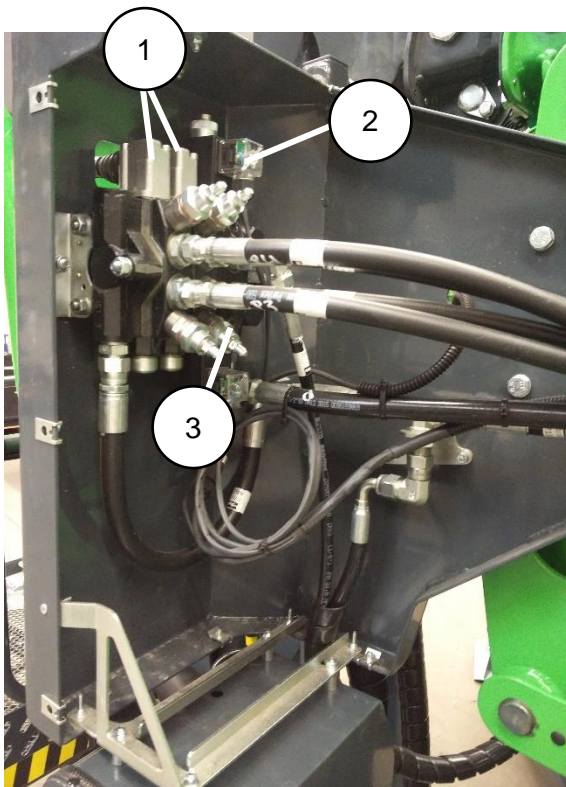

Figure 28 Pedestal valve housing
The lower transport support sensor S10 is located in the rear side of the chassis behind a cover (Figure 28 (1)).
The upper transport support sensor is located in front of the platform near the top of the linkage piece. It is protected by a protective plate and it is not visible from the platform (Figure 28). The sensor is adjusted according to the instructions above.